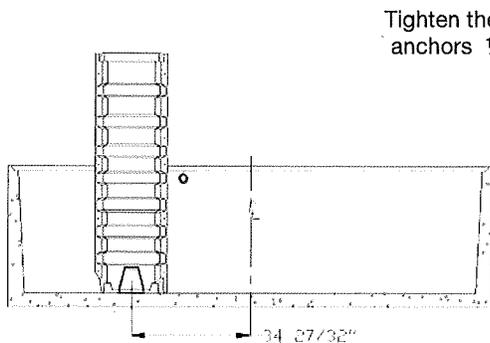

Figure 4
1.5 Set the access funnel in place inside the tank bottom part as described on figure 4 and 5.
1.5.2 Position the access funnel on the wall at the exact location as shown on Figure 4.